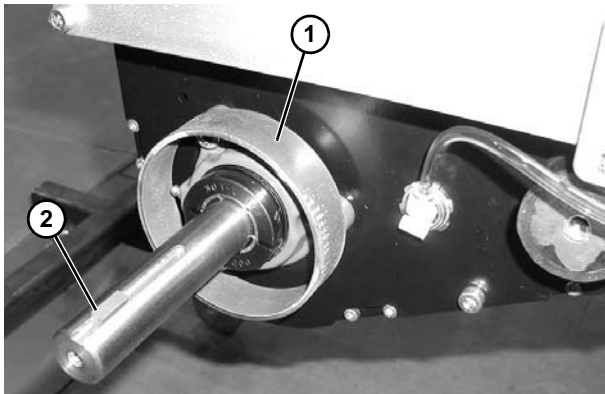

Figure 117
4. Remove spacer ring (**Figure 117, item 1**) and key (**Figure 117, item 2**).